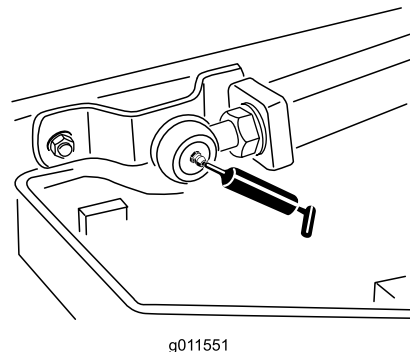

Figure 40
- 2 lift-arm-ball joints (Figure 40)